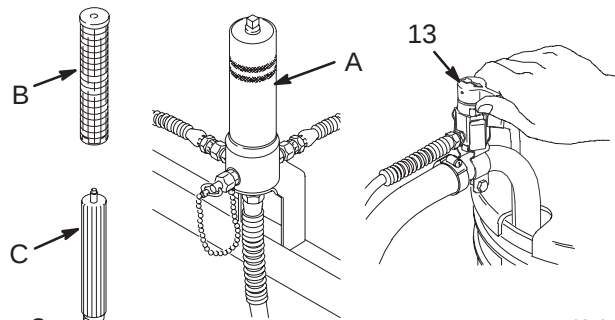

Fig. 8
2. Remove the filter bowl (A) and screen (B); see manual 307–273. Install the bowl and support (C), without the screen, to flush it. Clean the screen separately. See Fig. 8.
3. Close the pressure drain valve (13).